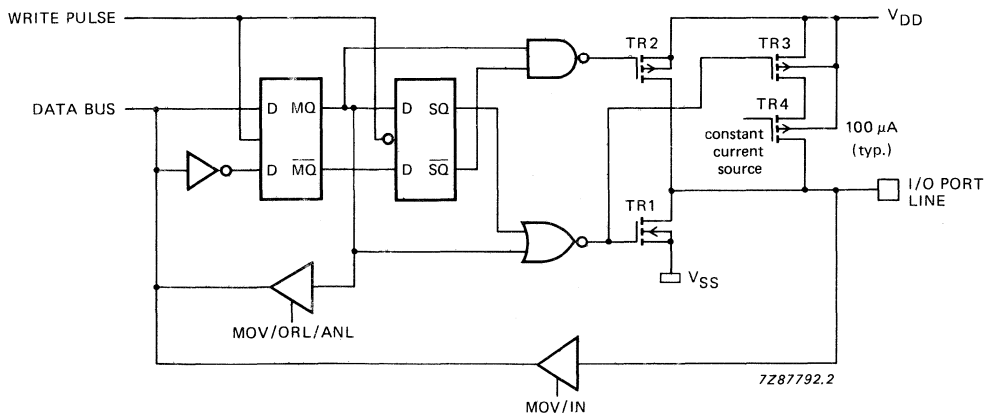

Fig. 10 Standard output with switched pull-up current source.
Fig. 10 shows the quasi-bidirectional I/O interface with push-pull output and switched pull-up current source. Each line is pulled up to  $V_{DD}$  via a constant current source (TR4), which is enabled via TR3 whenever one of the two output latches contains a logic 1. This current source is sufficient for a TTL HIGH level, yet can be pulled LOW by an external CMOS device, thus allowing the same pin to be used for both input and output.
- Option 1 – STANDARD PORT; quasi-bidirectional I/O with switched pull-up current source of  $100\ \mu\text{A}$  (typ.) and P-channel booster transistor TR2. TR2 is only active during 1 clock cycle (Fig. 10).